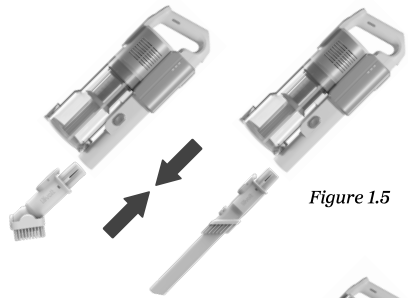

Figure 1.5
2. Slide the nozzle attachment onto the vacuum body. [Figure 1.5]